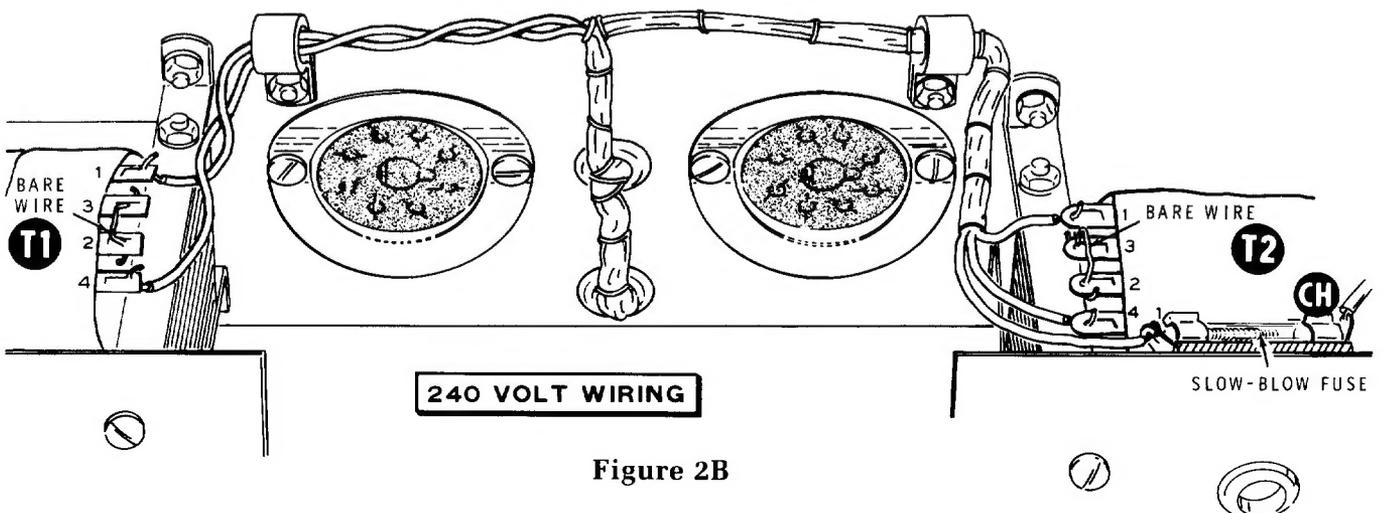

Figure 2B
2. Refer to Figure 2B and install a jumper wire between terminals 2 and 3 of each transformer. Solder each connection.